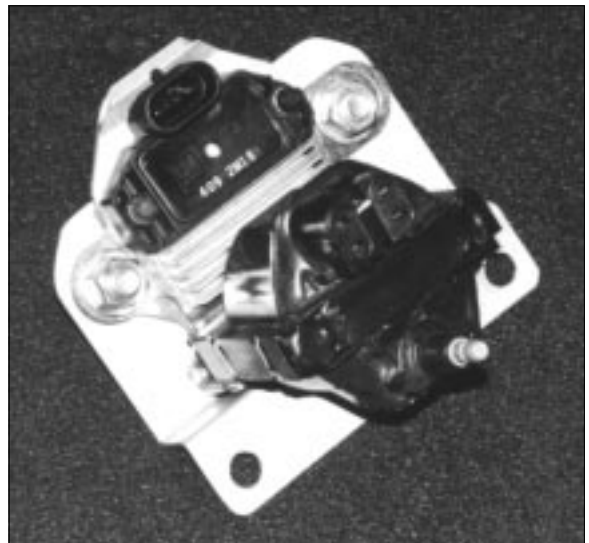

Figure: 13-a
- B. Using the two supplied 3/8-16 x 3/4" bolts, washers and nuts, fasten the coil and ignition module assembly to the Vortech coil bracket. (See *Figure 13-a*.)